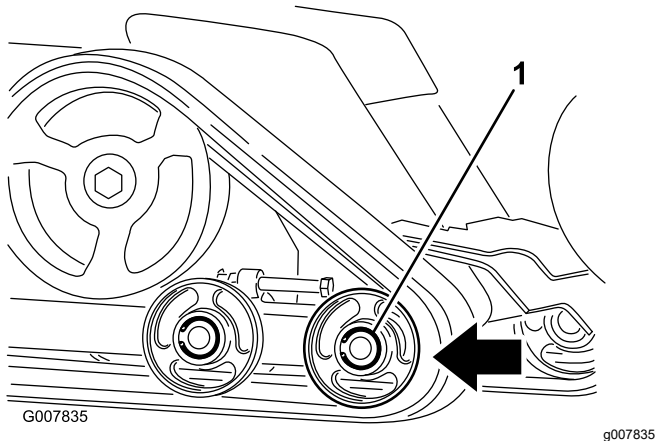

Figure 57
6. Push the front road wheel rearward as far as it can go (Figure 57).
8. When the track is off the road wheel, remove it from the machine (Figure 57).
9. Beginning at the drive wheel, coil the new track around the wheel, ensuring that the lugs on the track fit between the spacers on the wheel (Figure 57).
10. Push the track under and between the rear and center road wheels (Figure 57).